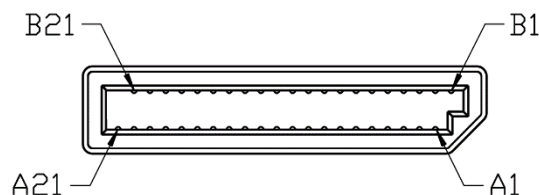

Figure 6-1. Pin number locations for x4 Free Cable Assemblies
- ❑ All x4 Free Cable Assemblies have the same pin numbering, as shown in Figure 6-1.
[EDITORS NOTE: Figure 6-1 was moved to Chapter 5.]